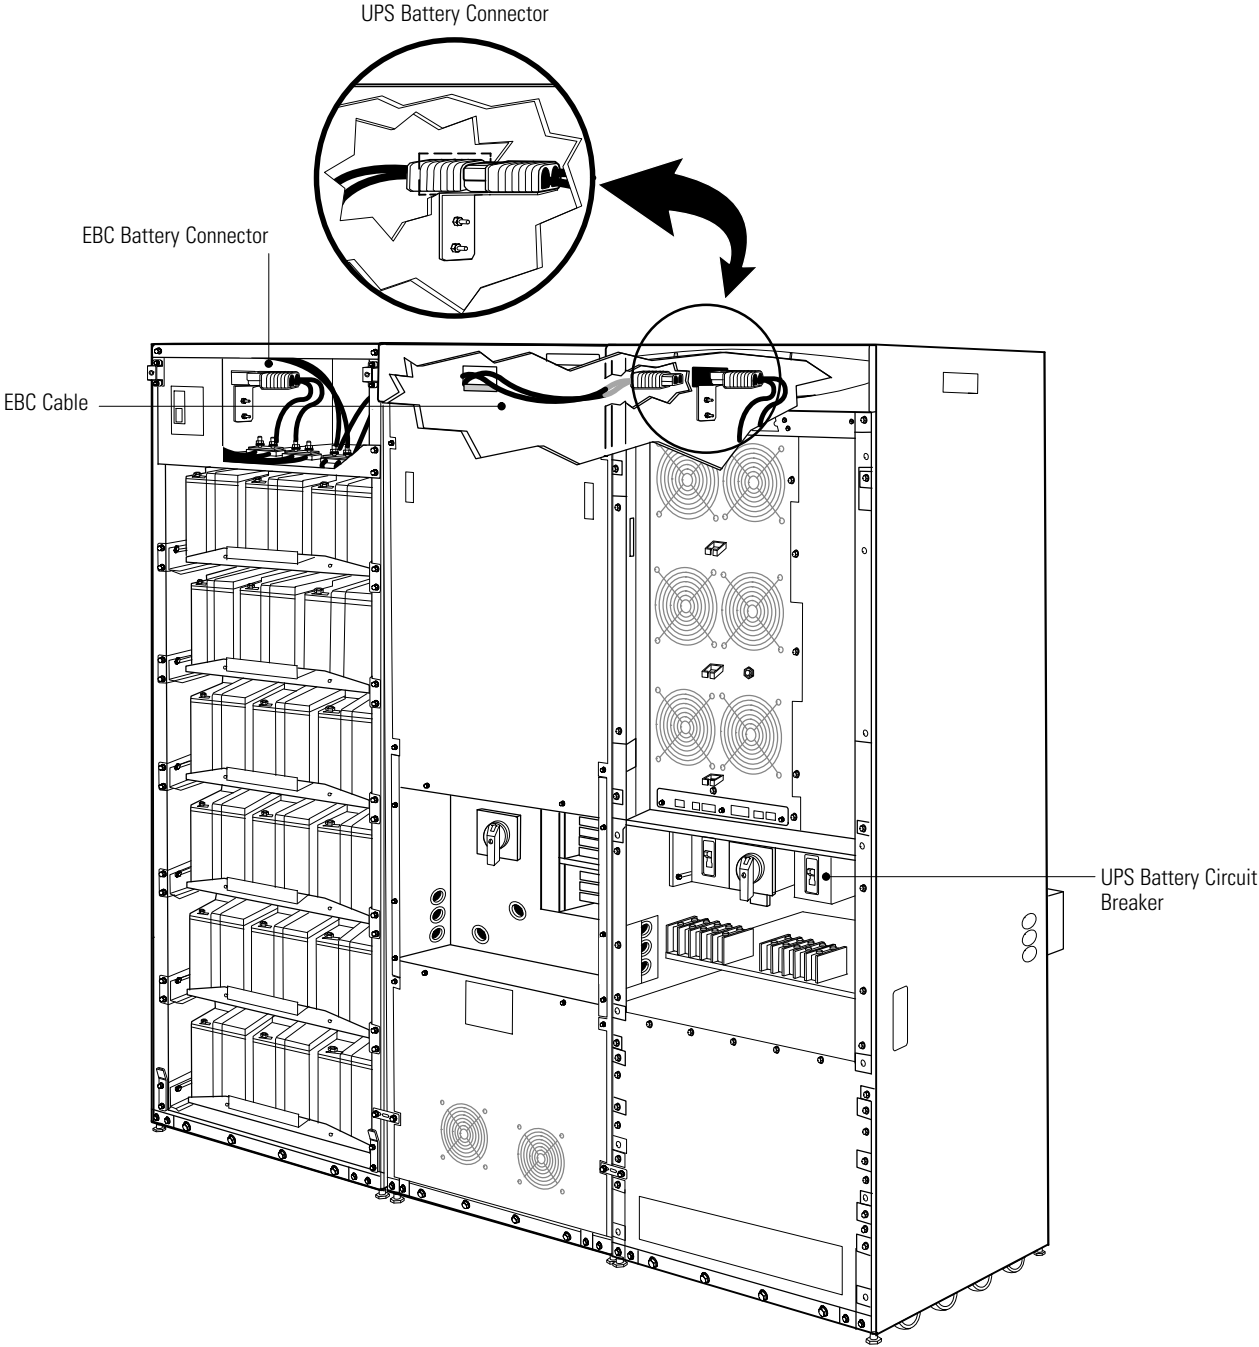

Figure 32. Typical EBC Installation
2. Verify that the UPS battery circuit breaker is in the OFF position (see Figure 32).
4. Plug the EBC cable into the UPS battery connector (see Figure 32).